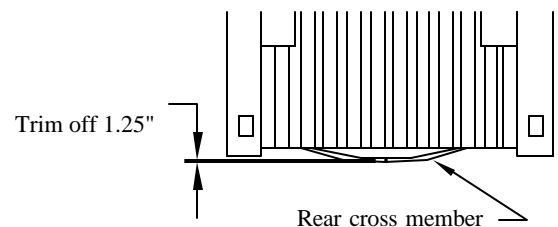

Figure 3 : Rear cross member.
Step 3: **Trim** 1.25" from the pickup's rear cross member as shown in **Figure 3** .